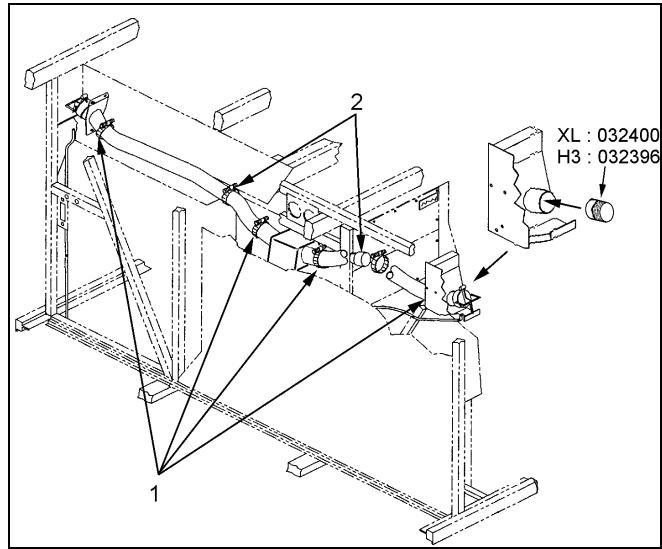

FIGURE 2 : L.H. & R.H. SIDE FILLER TUBES
5. Unscrew hose clamps retaining L.H. and R.H. side filler tubes to fuel tank and filler neck, then remove both tubes (item ① figure 2).
6. For both filler tubes, remove the clamp retaining the existing check valve inside the tube and remove check valve (item ② figure 2).
20. Using a heat gun, heat and remove the actual adapters (glued) in the filler neck (figure 2). Replace by adapter #032396, use Loctite 330 (kit #680446).
24. Using a heat gun, heat and remove the actual adapters glued in the filler neck (figure 2). Replace by adapter #032400, use Loctite 330 (kit #680446).